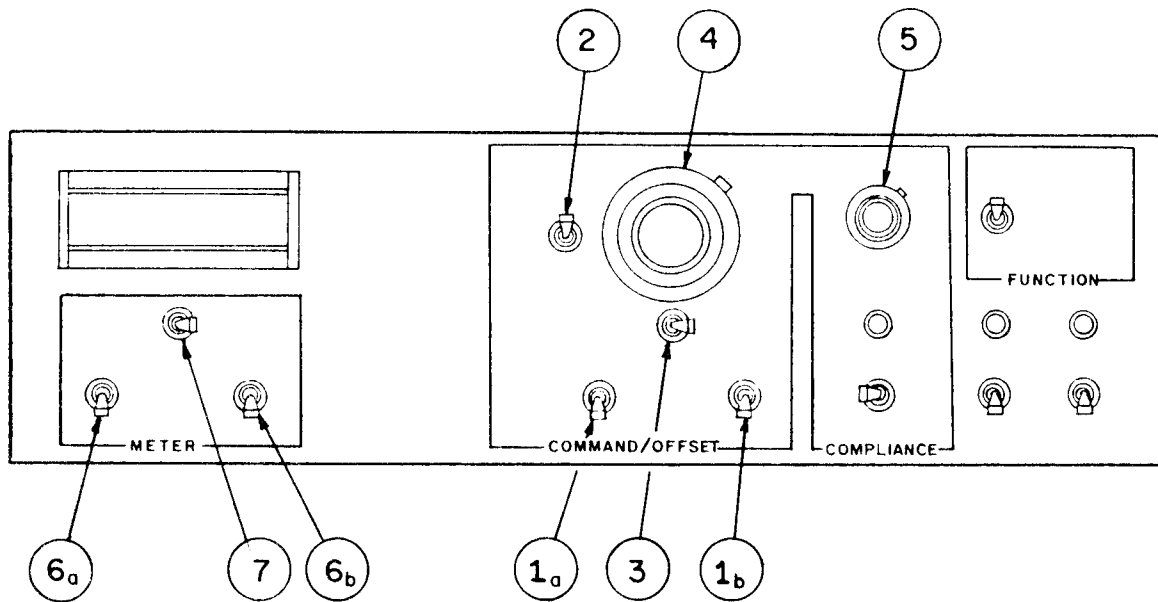

Figure 48. Example of Front Panel Settings
e. To perform a current operation in the I_r SUPPLY mode, given a random value of $+400 \mu\text{A}$, set the controls as follows (see Figure 48):